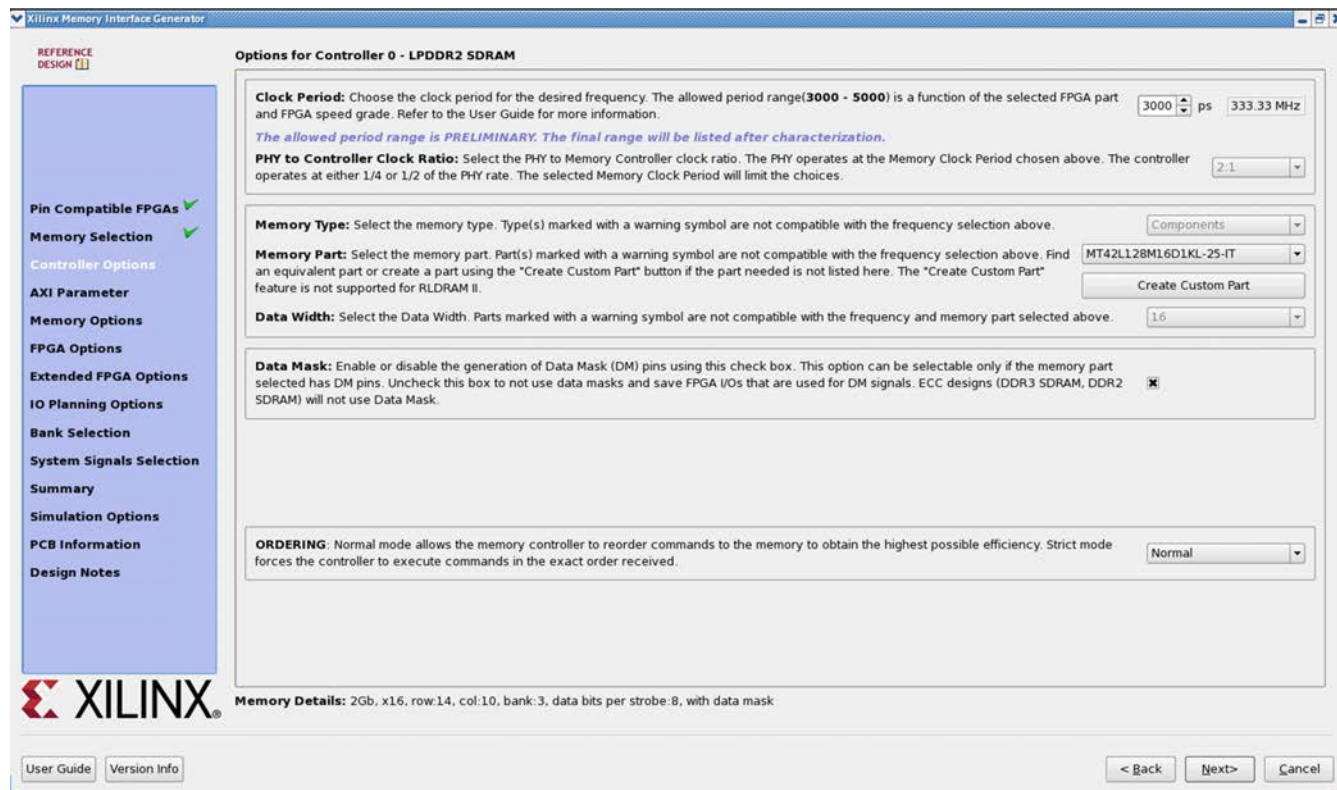

Figure 4-17: Controller Options Page
This page shows the various controller options that can be selected (Figure 4-17).
- **Memory Details** – The bottom of the Controller Options page (Figure 4-17, page 497) displays the details for the selected memory configuration (Figure 4-18).